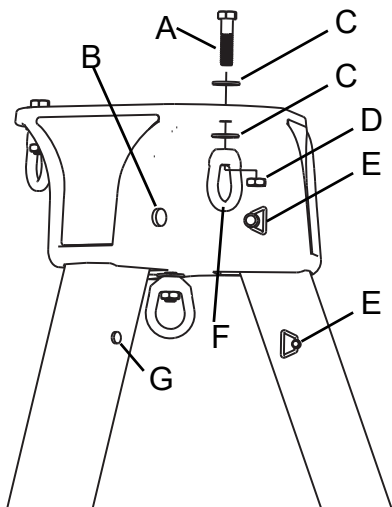

Fig. 10 Inspection locations
- (1) Inspect the MSA Tripod labels to verify that they are present and legible. Check the Formal Inspection Grid to be sure a Formal Inspection has been performed within the last six months. If the Grid does not indicate that a Formal Inspection has been performed within the last six months (by being punched), or if any labels are missing or illegible, remove the MSA Tripod from use and mark it as "UNUSABLE" until a Formal Inspection is performed by a competent person.
- (2) Inspect head assembly for corrosion, cracks, deformation, fractures, altered or missing elements, burns, and heat and chemical exposures. See Fig. 10 .
- (3) Inspect all metallic parts (i.e. head, legs, leg pins, attachment pins, feet) for deformation, fractures, cracks, corrosion, deep pitting, burrs, sharp edges, cuts, deep nicks, missing or loose parts, improper function, and evidence of excessive heat or chemical exposures.
- (4) Inspect all non-metallic parts (i.e. skid-resistant foot pads, labels, and leg base strap) for cut, broken, excessively worn, missing and loose parts. (Labels are to be additionally checked in accordance with Step 1 above.) Inspect for evidence of burns and excessive heat and chemical exposures.
- (5) Check the function of the MSA Tripod legs. Legs should move smoothly in the leg pockets and should seat firmly when moved to the fully open position. The lower legs should slide smoothly within the upper legs along their entire length. MSA Tripod feet should pivot easily and remain flat on the ground when the MSA Tripod is erected.
- (6) Inspect each component and subsystem of the complete system in accordance with the associated manufacturer's instructions.
- (7) Inspect for any sign of damage, inadequate maintenance of equipment, alteration, excessive wear, and any condition that calls to question the suitability of the equipment for its intended purpose.